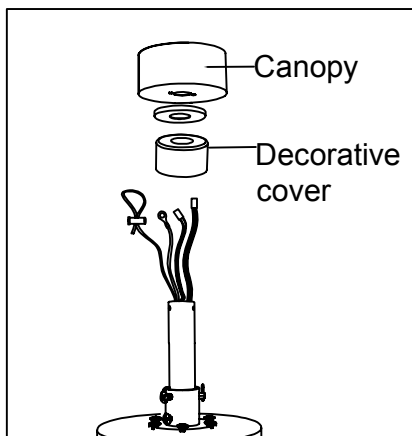

Figure 2.3
- Place all wires through the Decorative cover And Canopy.(Figure 2.3)